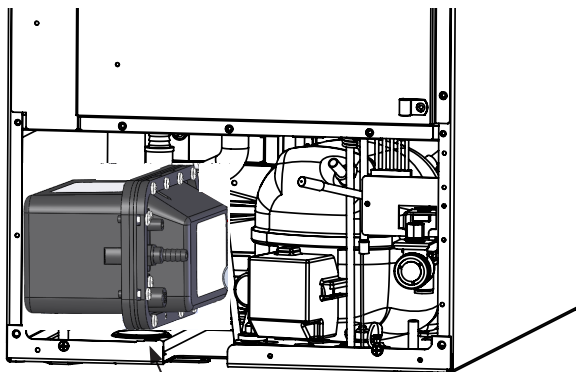

Figure 40
6. Rotate the drain pump and remove from the ice machine, (See Figure 40). It may be necessary to disconnect the ground wire connection in the back flange of the cabinet. (See Figure 36).